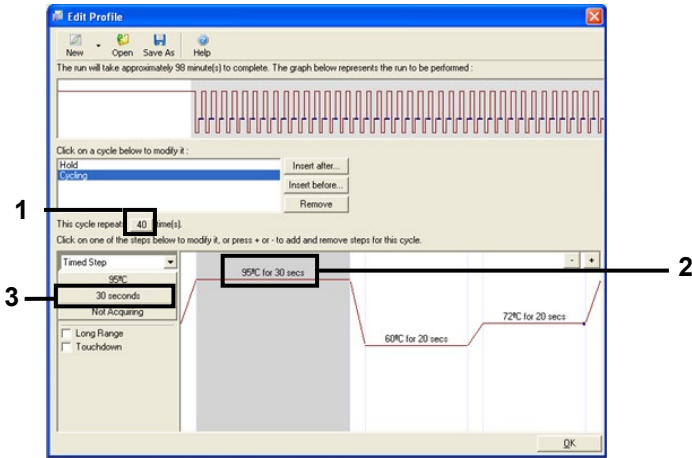

Figure 6. Cycling step at 95°C. (1 = "Cycle repeats" box; 2 = Step one: temperature setting; 3 = Step one: time setting.)
8. Set the number of cycle repeats to **40**. Select the first step and set to **95°C for 30 seconds** (Figure 6).